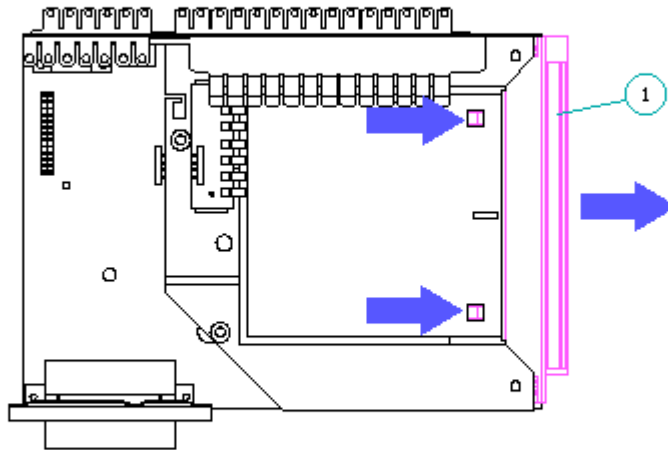

Figure 9-23. Removing the Battery Bezel
11. Turn the assembly over and remove the battery bezel [1] from the battery charging compartment by gently releasing the two plastic retaining tabs that hold them together (Figure 9-23).